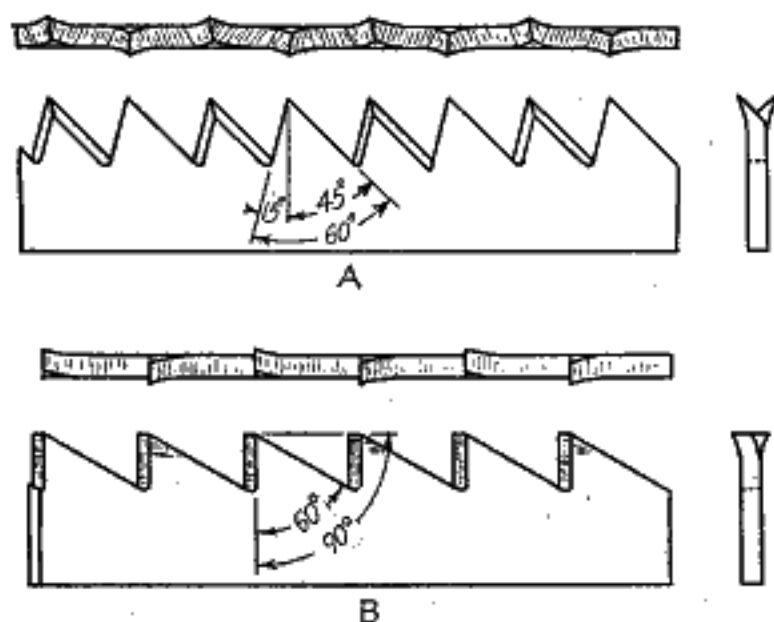

FIG. 149.—A. Hand crosscut saw. B. Rip saw. There are two chief differences in the shape of crosscut and rip saw teeth:
hook or pitch of the teeth. The front edge of a rip saw tooth is perpendicular to the tooth line of the saw, while the front edge of a crosscut saw tooth makes an angle of from 12 to 15 deg. with the perpendicular (see Fig. 149).
2. The edges of the teeth are not beveled but are square with the saw blade (see Fig. 149).